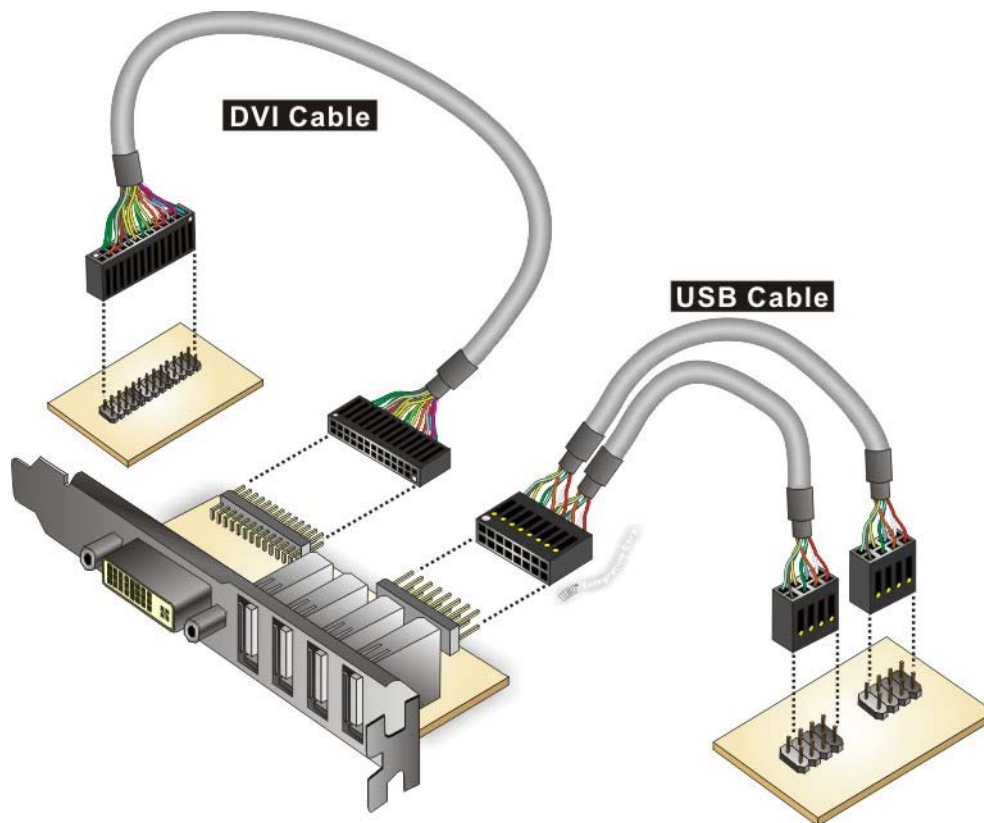

Figure 4-12: DVI and Quad-port USB Kit Installation
Step 1: Connect the cables to the DVI and quad-port USB kit. Connect the included cables to the DVI and quad-port USB kit (**Figure 4-12**).
Step 2: Connect the cables to the board. Connect the other ends of the included cables to the DVI-I and USB connectors on the KINO-DA750-i2 (**Figure 4-12**).